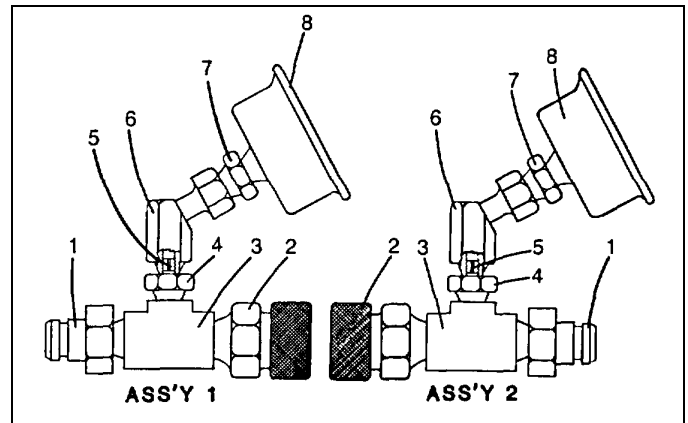

Fig. 3-12
- (a) Use a 2500 psi pressure gauge to adjust the relief valves. This gauge should be protected against pressure surges by an orifice or a nearly closed needle valve. Refer to Fig. 3-12 for examples of gauge assemblies with orifices and quick disconnects.